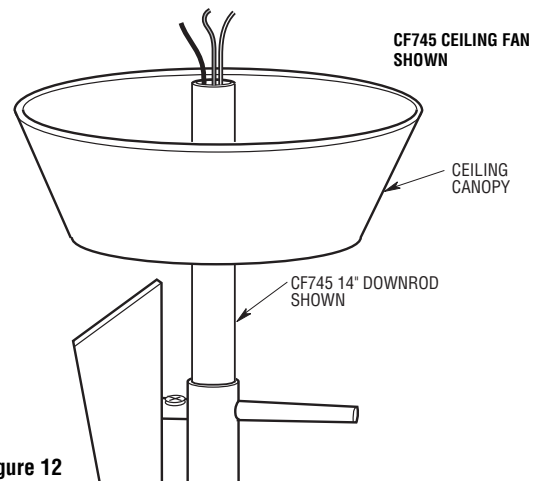

Figure 12
- 13. Place the ceiling canopy over the downrod. Be sure that the ceiling canopy is oriented correctly (Figure 12).